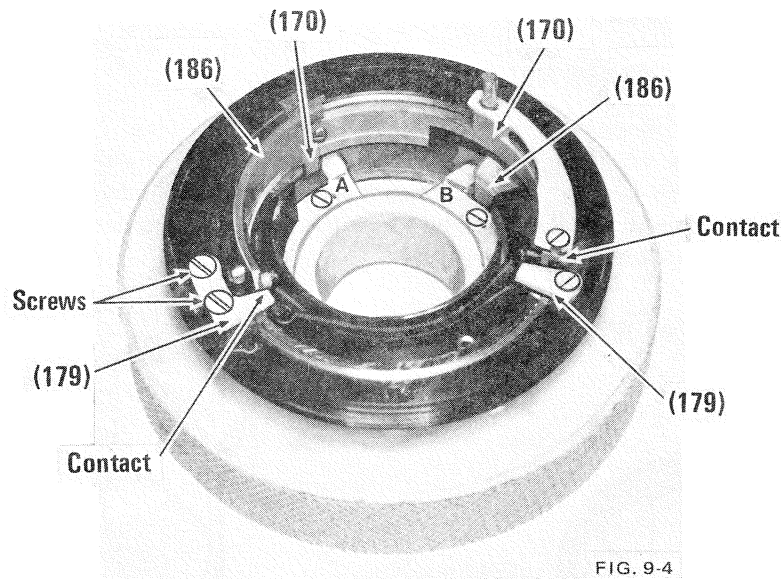

FIG. 9-4
- a) For correct adjustment, the front projection on the aperture signal ring must rest against stop "A" of the tool. Fig. 9-4.
- b) For correct adjustment, the front projection of the automatic/manual aperture ring must rest against stop "B" of the tool. Fig. 9-4.
- c) Adjust positions of stop plates (179) on the mount, so that they just make contact with the rear projections on the two rings when the front projections are against the stop plates of the tool as described in steps a) and b). Fig. 9-4.
The tool consists of two principle parts: A knurled outer ring with position tab and an inner ring with notch to engage the locating pin on the lens mount. Fig. 9-4.